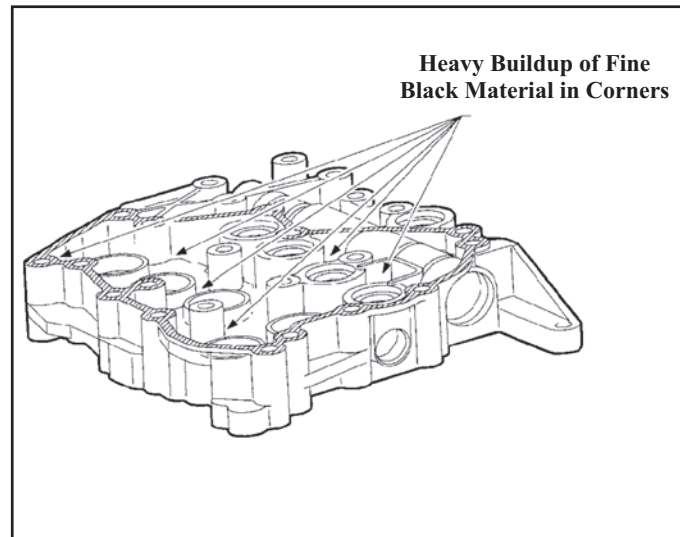

Figure 181
13. Before installing the actuators into the upper valve body, carefully inspect for heavy metal build up in the corners as shown in Figure 181.
**IMPORTANT:** Some transaxles may have been manufactured with iron sediments that migrates to the control body assembly causing deposit buildup on the upper valve body as shown in Figure 181. This also may cause the actuator valves and or valve body valve to seize or become sticky. Careful inspection of the actuators and valves must be taken.